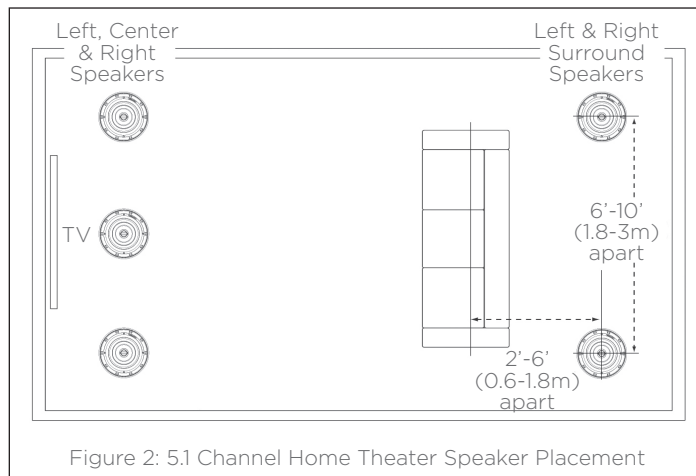

Figure 2: 5.1 Channel Home Theater Speaker Placement
Use the left and right speaker placement in Figures 2 and 3, on the left side of image, as a guide.
- Locate the left and right surround speakers 2 - 6 feet (0.6 - 1.8m) behind the listening position. The speakers should be 6 - 10 feet (1.8 - 3m) apart (see Figure 2).